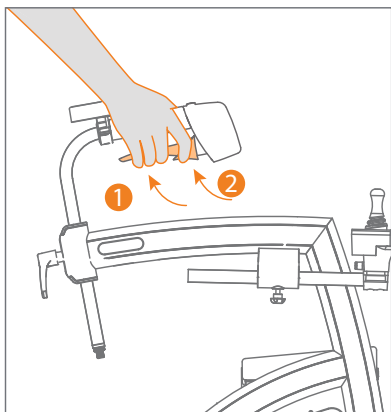

**Figure 55:** To set into freewheel mode.
2. Move both levers at the back of the rollator to the backward position (**Figure 55**).